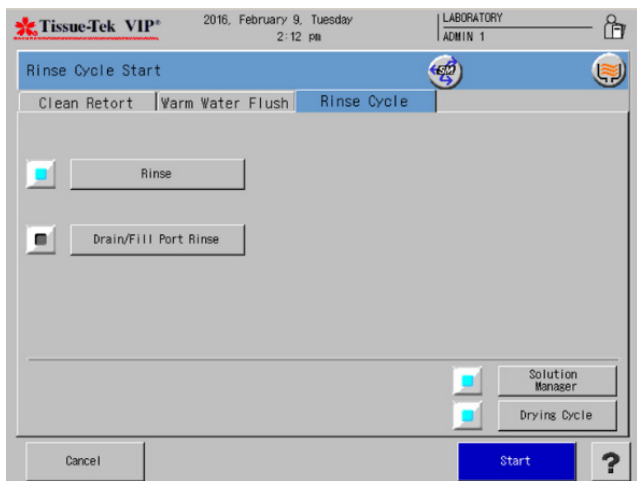

**Figure 4-W**
- The Warm Water Flush screen is displayed (Figure 4-W).